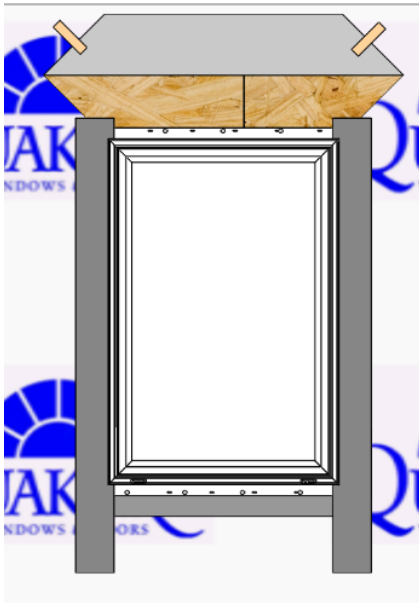

Fig. 11
- A. Cut two pieces of flashing tape for jamb flashing extending 1" above window head flange and 4" to 6" below bottom edge of sill flashing. Remove release paper and press tightly along sides of window frame. (Fig. 11)